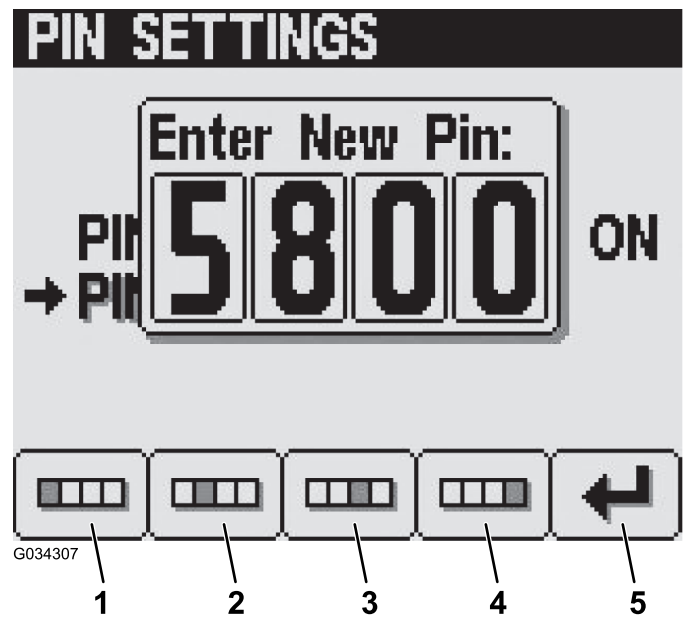

Figure 19
5. Enter your new PIN using buttons 1 to 4 and press button 5 when you complete your new PIN (Figure 19).